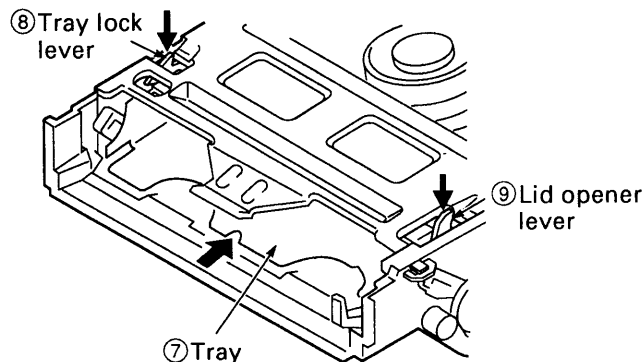

Fig.3-2-2
**NOTE 1:** When carrying out front loading, release the lock by pressing down the tray lock lever ⑧ and the lid opener lever ⑨ of the cassette mechanism assembly (shown in Fig.3-2-2) in the direction of the arrow.
When carrying out front loading, release the lock by pressing down the tray lock lever ⑧ and the lid opener lever ⑨ of the cassette mechanism assembly (shown in Fig.3-2-2).
- 2) Unplug the flat cable ① from the VM-1/VP-1 PWB assembly on the cylinder (drum), and unplug the ACE head connector ③.
- 3) Remove the screw ②, the two screws ④, then remove the VM-1/VP-1 PWB assembly ⑤, lifting it upwards. The shape of the VM-1/VP-1 PWB assembly and the bracket varies according to the model.
- 4) Remove the four screws ⑥ and the two screws ⑩, then lift up the mechanism unit. The tray ⑦ will stop you removing the two screws ⑥ on the front, so release the lock by pressing down the tray lock lever ⑧ and the lid opener lever ⑨ shown in Fig.3-2-2, then slide off the tray ⑦. Move the tray by referring to section 3-1 and turn the loading motor in the PLAY direction.